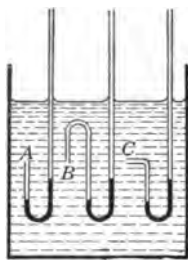

FIG. 12. — Liquid pressure is equal in all directions.
24. Liquid Pressure Is Independent of Direction. A pile of bricks resting on a table exerts pressure in a *downward* direction only; but the molecules of a liquid move over one another so freely that a liquid takes the shape of its container; therefore we may expect liquids to press outward in a *sidewise* direction. Our study of floating objects convinces us that liquids push upward as well as downward. If we pour mercury into the three tubes shown in Fig. 12 until it stands at the same height in each, and then lower them all into water so that the open ends are at the same depth, the pressure of the water will cause the mercury to rise in the long arm of each tube. At A the water presses *downward*; at B the pressure is *upward*; while at C a *sidewise* pressure is exerted. The mercury stands at the same level in the long arm of each tube. As measured by the mercury columns the pressures are all equal. This is one way of showing that *liquid pressure is independent of direction*.